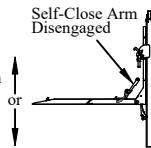

Figure 9: Step 11.
Step 11. To raise (or lower) the load, push up (or down) on the control toggle switch until the load has reached the desired position. **Be sure the self-close arm is disengaged.** Do not allow the pump and motor to continue to run after the platform has reached its maximum height or after it has reached an obstruction (Figure 9).